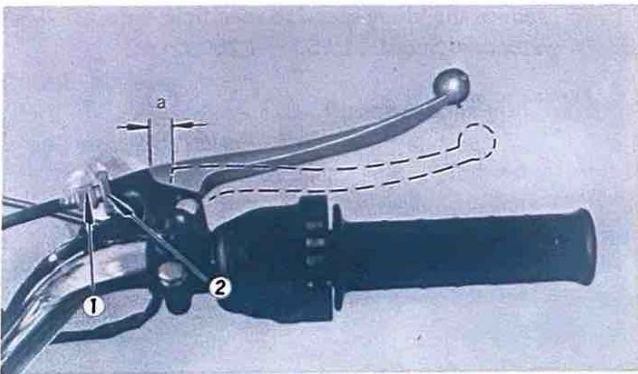

Fig. 53
5. Front brake wire adjustment (Fig. 53)